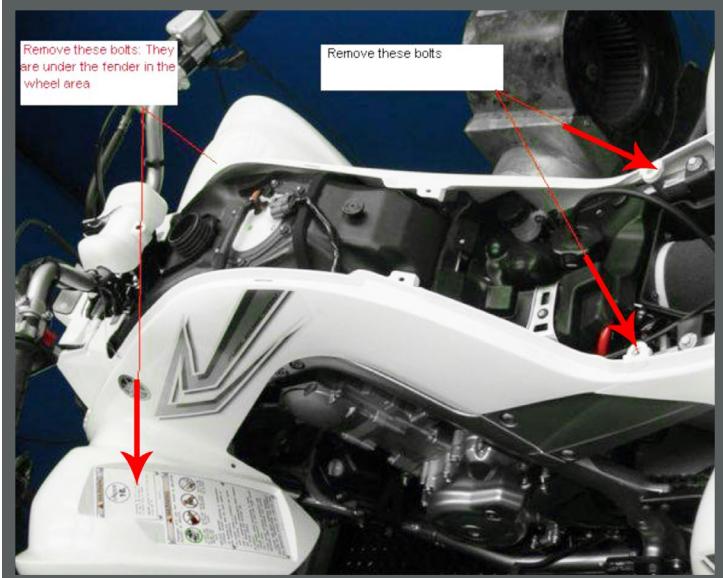

Figure 5
7. Remove the **Rear Main Plastic Mounting Hardware** and remove the **Main Plastic Cover**. (See Fig 5)